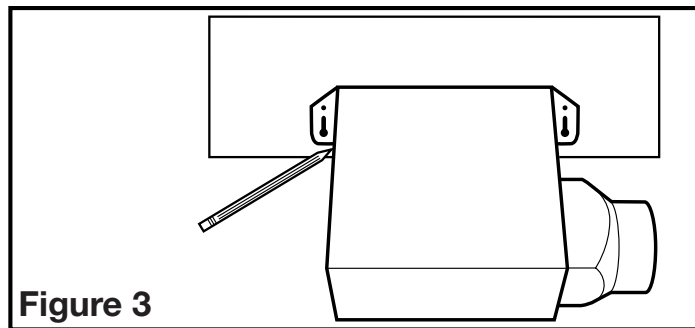

Figure 3
- 1b. **Existing Constructions:** Position housing against the joist or stud and trace an outline of the housing onto the ceiling/wall material (Figure 3). Set housing aside and cut opening, being careful not to cut or damage any electrical or other hidden utilities. Place housing next to the joist or stud and insure that it is flush with the finished ceiling. Secure with four nails (not provided) to ensure proper installation (Figure 2).